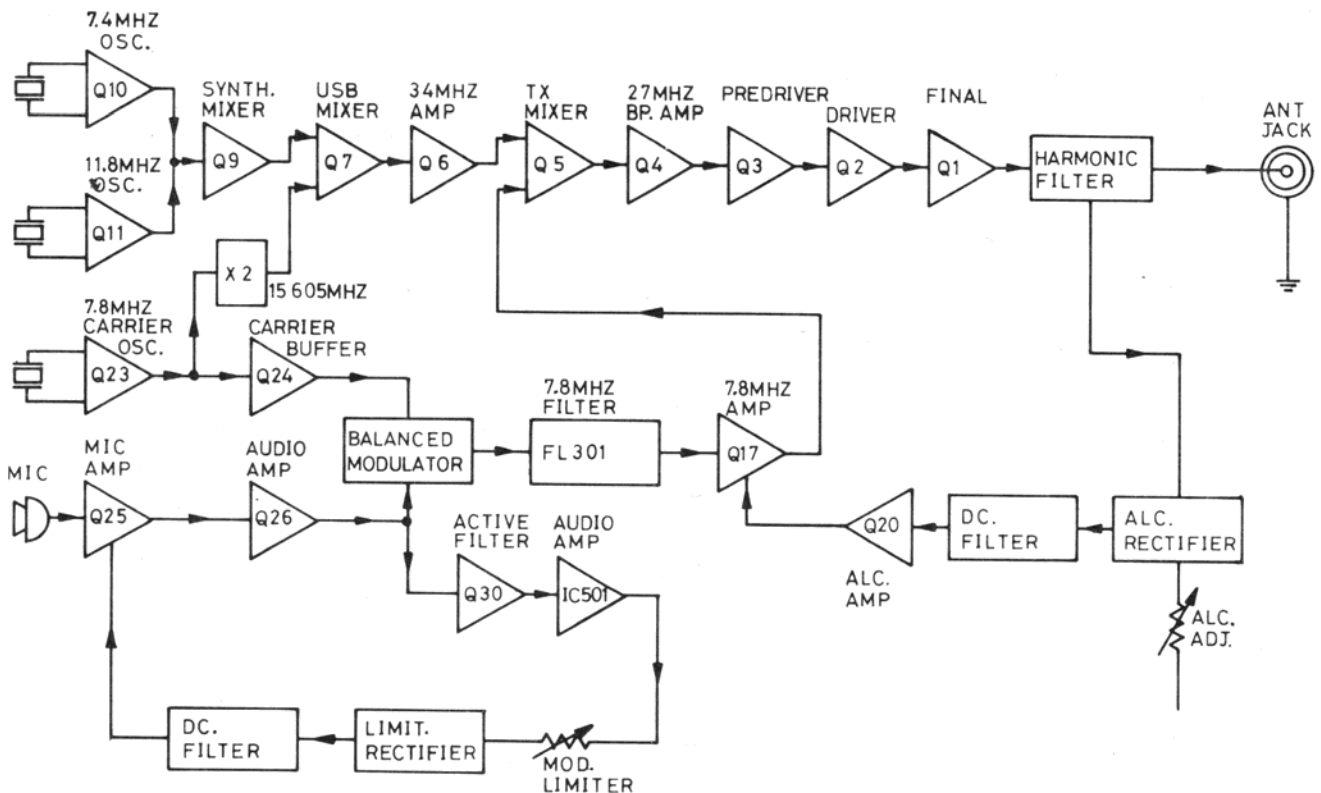

Figure 2-5 Upper Sideband Transmitter Block Diagram
2.4.3 Upper Sideband (USB) Transmitter (Refer to Figure 2-5)